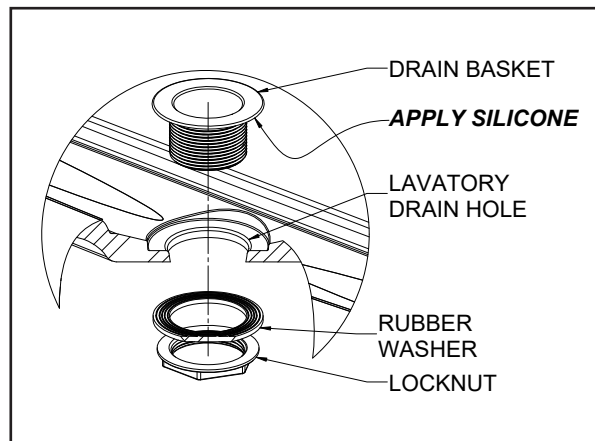

FIG. 1- DRAIN INSTALLATION
2. Apply a small strand of silicone caulk on the underside of the Drain Basket lip (**SEE FIG. 1**).